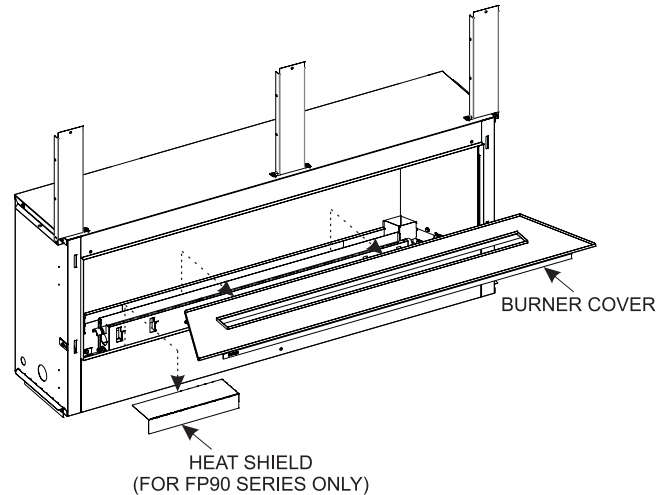

Figure 16
1. To access and install the junction box and wiring, begin by removing the burner cover. Lift it straight up off of the burner and set aside. See Figure 16. For VFLL(38,48)FP90 Units: Remove the heat shield and disconnect the wire to the switch on the heat shield.